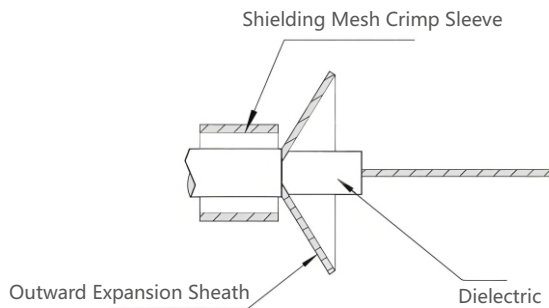

Figure 2.2
②As shown in Figure 2.2, thread the shielding mesh crimp sleeve onto the cable jacket.